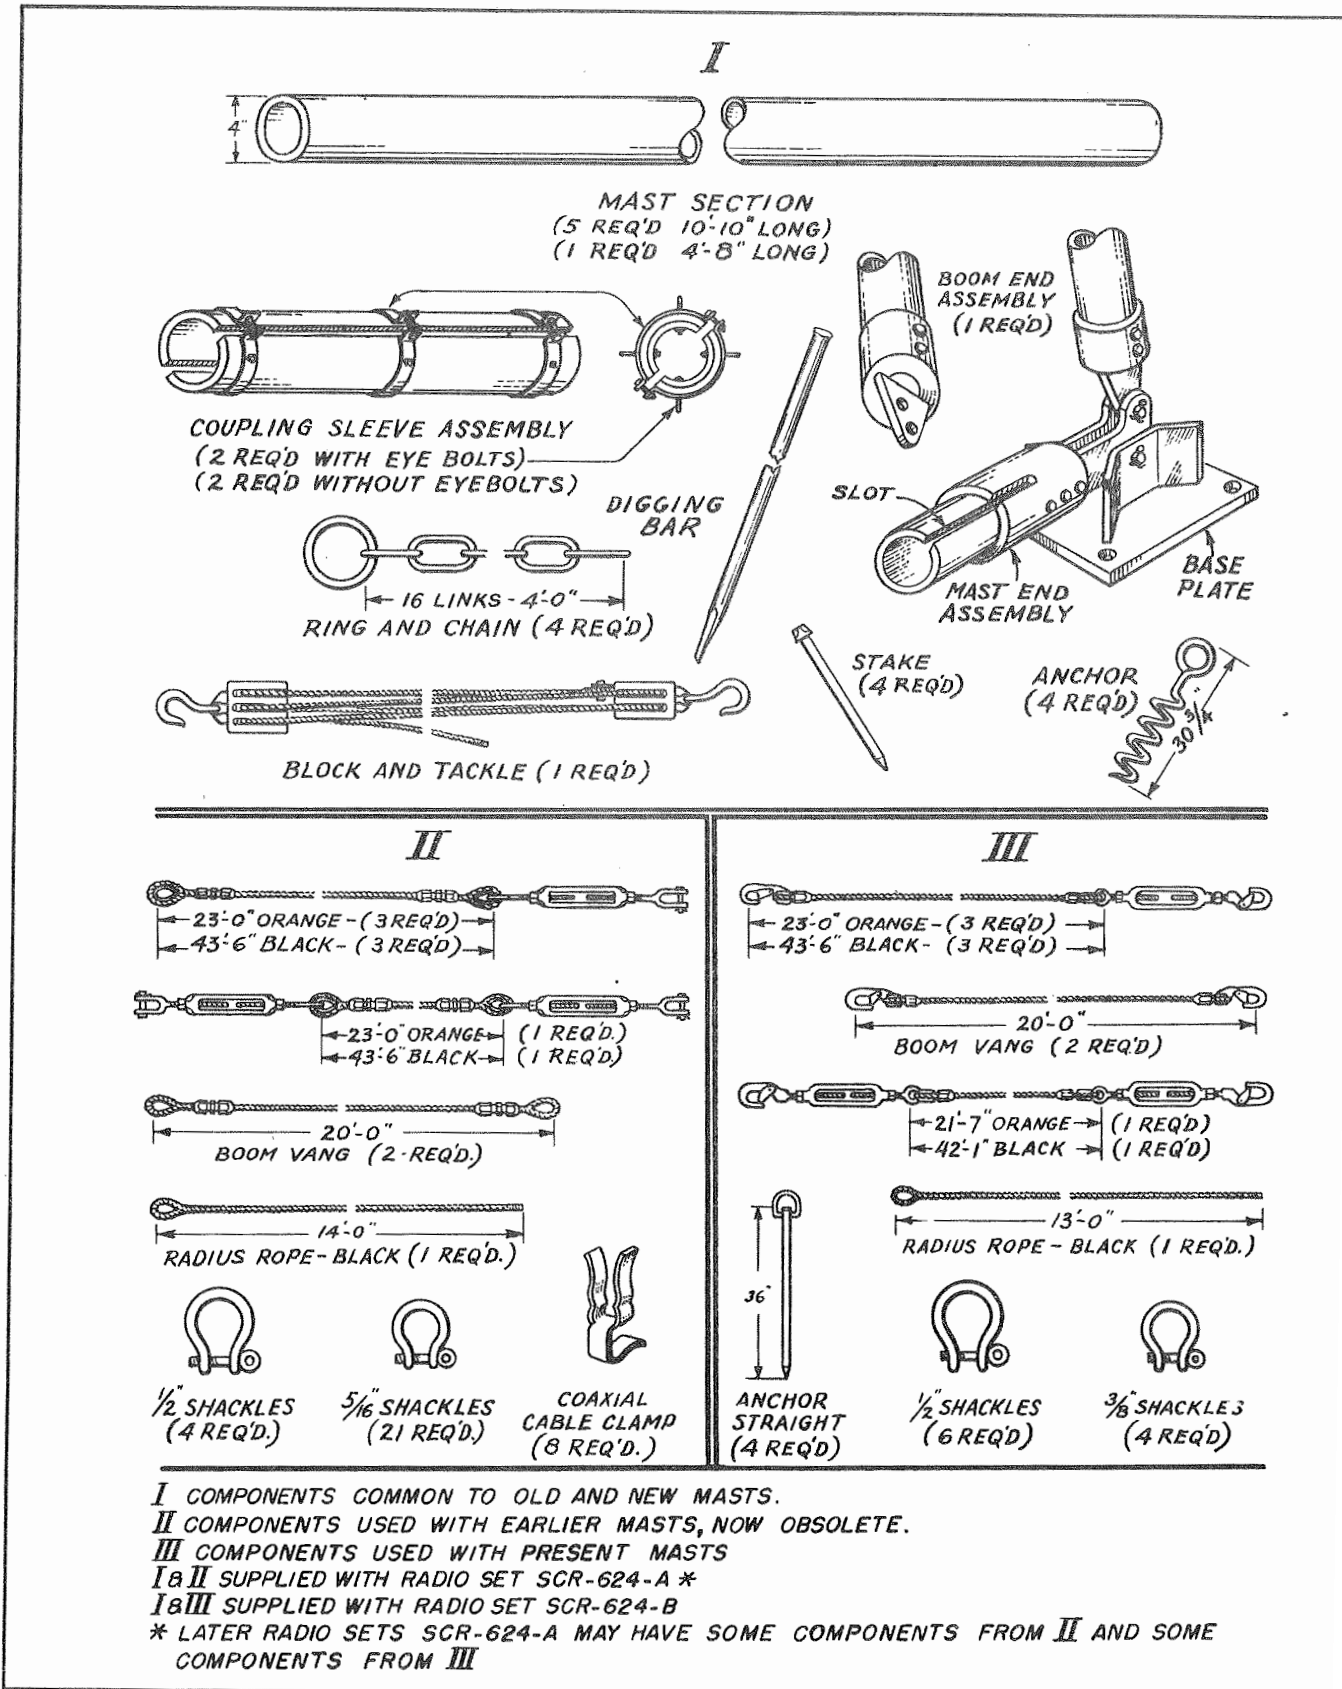
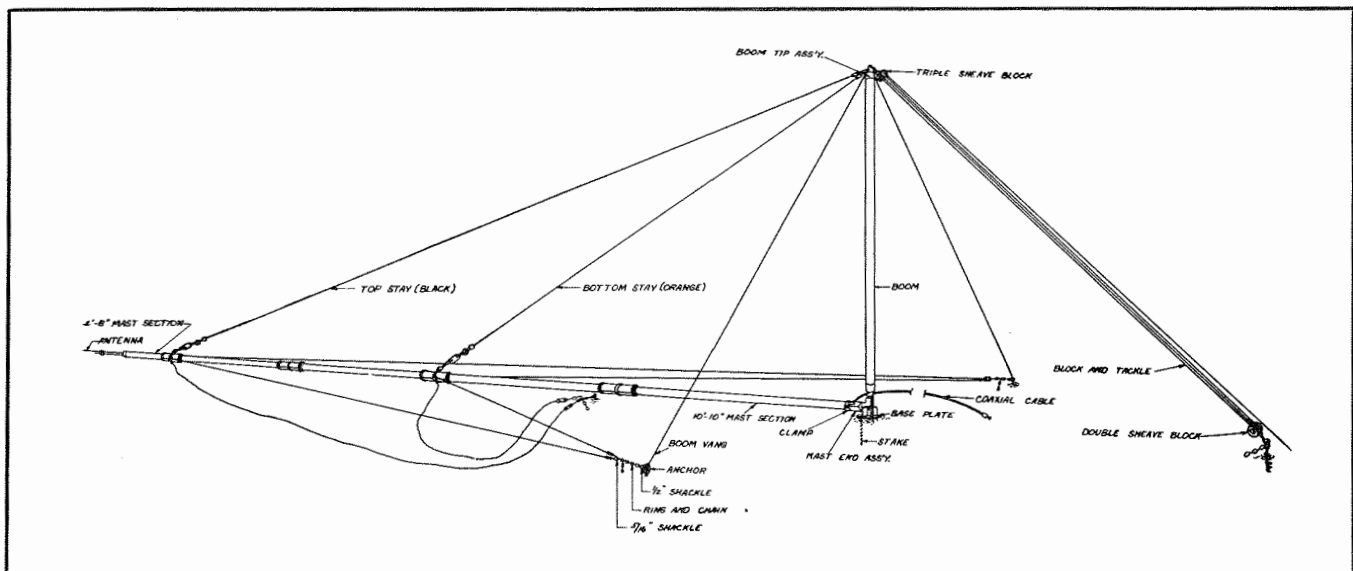

Figure 2-2. Antenna Mast MA-7-A—Components
Figure 2-5. Antenna Mast MA-7-A—Assembled
(1) To erect the plywood mast and antenna and adjust the antenna (see figs. 2-5), proceed as follows: (See figs 2-5 and 2-6.) Estimate the approximate center of the 26-foot diameter cleared space. Drive a stake lightly into the ground at this point. Place the loop end of the radius rope (see fig. 2-2) over the stake, extending it in the direction where the 60-foot clearance has been provided. At the far end of the radius rope locate the position of the first anchor. (See fig. 2-2.) Take the anchor from the plywood mast section in which it has been transported. Two sets of anchors are furnished: one set resembling corkscrews for use in soft soil, the other set consisting of straight rods suitable for hard or frozen soil. Select the anchors required and place the duplicate set in the spare parts chest. At the end